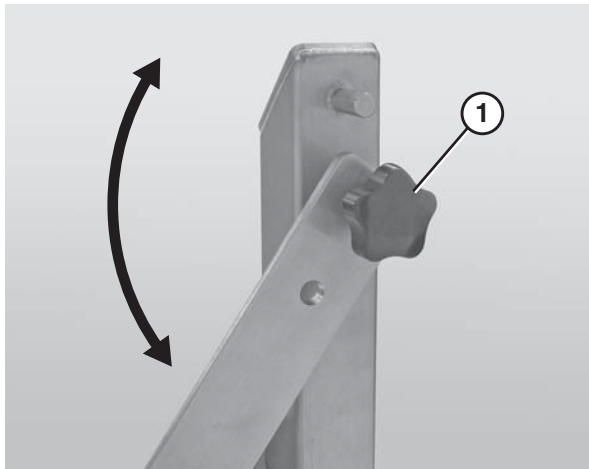

Figure 13
4. Loosen the inside knob (**Figure 13, item 1**) on the quick release side of the stand.